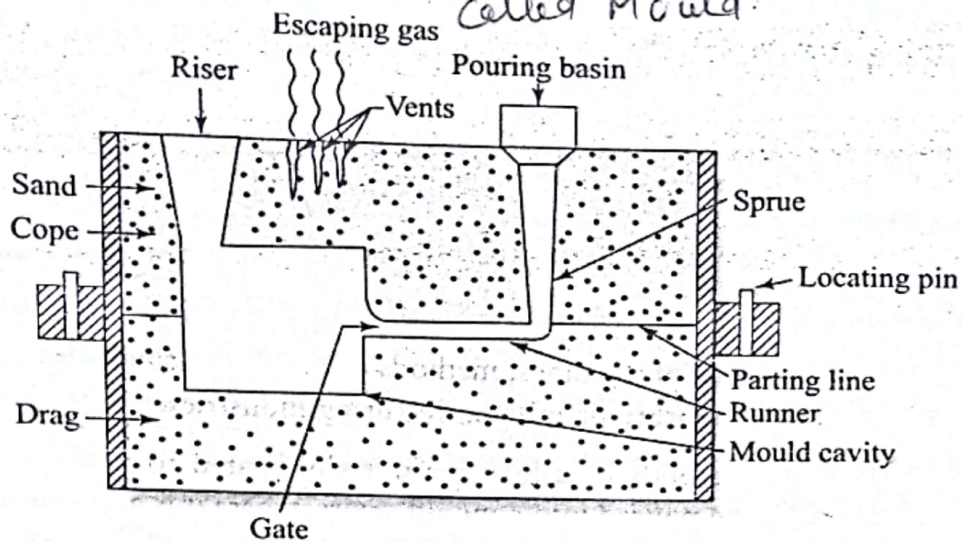

Figure 5.1: Cross-section of a sand mould
① A *moulding flask* is a box that contains the moulding aggregate. In a two piece mould, *cope* refers to the top half of the pattern, flask, mould or core and drag, the bottom half of any of these features. The seam between them is called *parting line* or *parting surface* (Figure 5.1). When more than two pieces are used, the additional part is called cheek. )